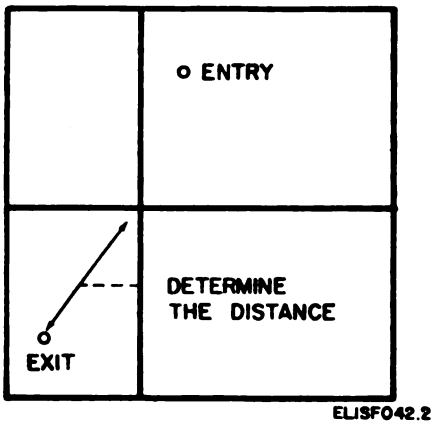
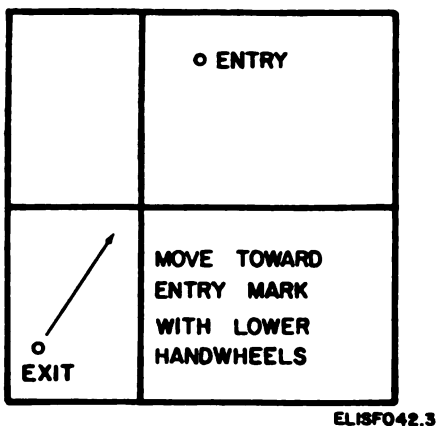

Figure 3-17.2. Distance from strobe limit to exit mark.
Figure 3-17.3. Strobing by using the lower beam handwheels.
c. Measure the distance from the exit mark to where the strobe stopped (fig. 3-17.2) by using the LOWER BEAM AZIMUTH and RANGE handwheels.
d. Subtract the smaller from the larger to determine the distance (fig. 3-17.2).
f. Using the LOWER BEAM AZIMUTH and RANGE handwheels, move the strobos in the same direction, noted in *b* above, and the same distance (fig. 3-17.3) as in fig. 3-17.2. Figure 3-17.3 shows where the strobos would be after using the lower beam handwheels.